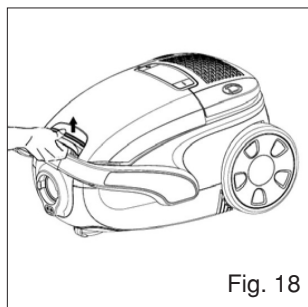

Fig. 18
- 1) Open the dust compartment cover by unlatching and subsequently raising it (Fig. 18).